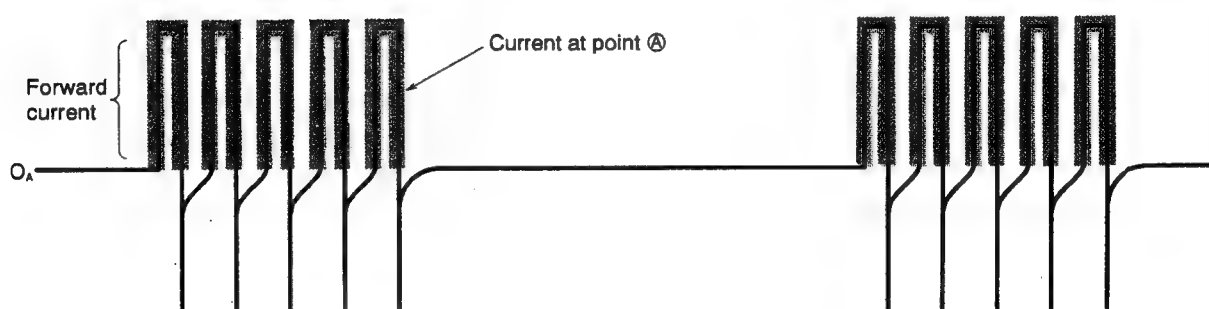

Fig. 7-2 Forward Current Waveform at Point (A)
- When pin ②③ of the micro computer goes “HI” → “LO”, a photocoupler between PQ401A pins ① and ② turns on and current flows to terminal ④→R401A→PQ401A→R404A→power module’s Bu⁺ terminals → Eu⁺ terminals →D402A→D401A→terminal ⑤ and drives the upper arm transistors. (Fig. 7-2)
- As described in the rotor magnetic pole position detecting circuit, the upper arm drive circuit supplies current to the bases of the transistors on the power module’s positive ⊕ side which turn on or off according to the position detection signals. The signals according to the position detection signals are output from pins ②③, ②④ and ②⑤ of the micro computer and are input to pins ② of photocouplers PQ401A—PQ403A via driver IC1.